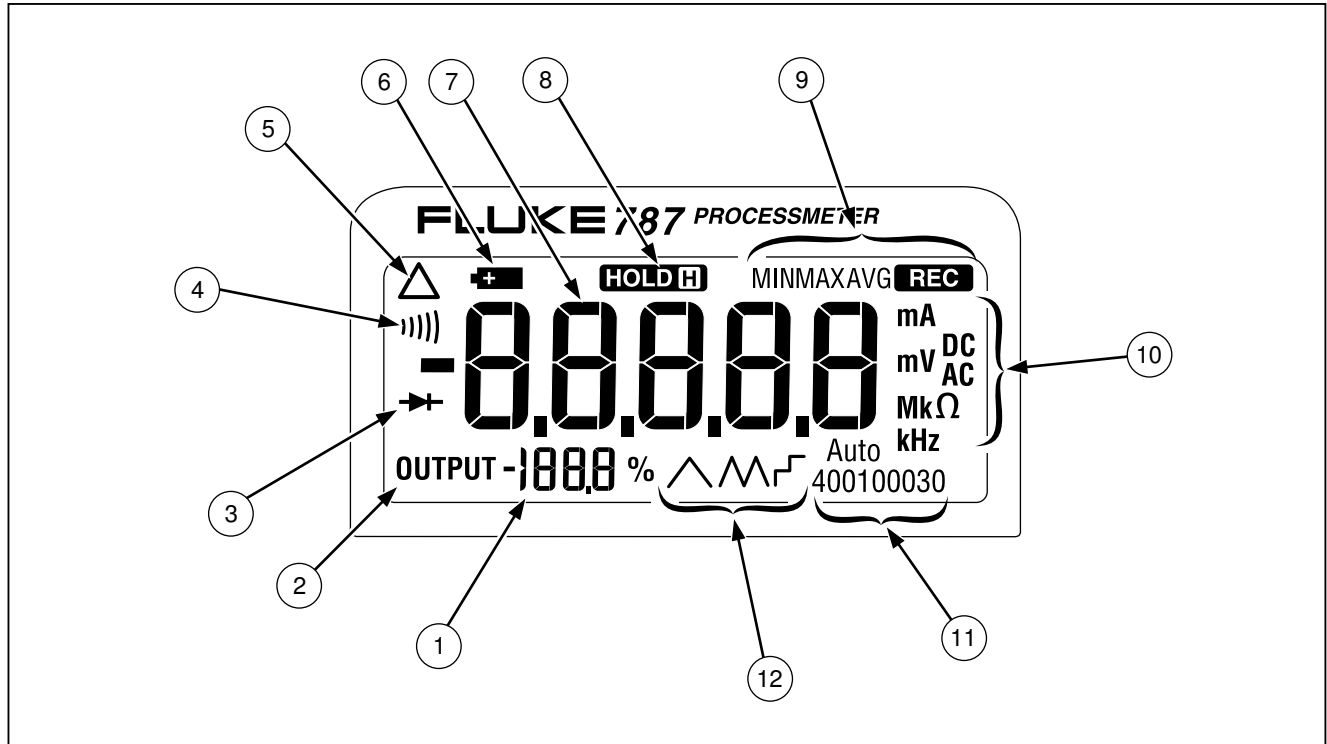

Figure 5. Elements of the Display
- Figure 5 and Table 6 explain what all the elements of the display indicate.